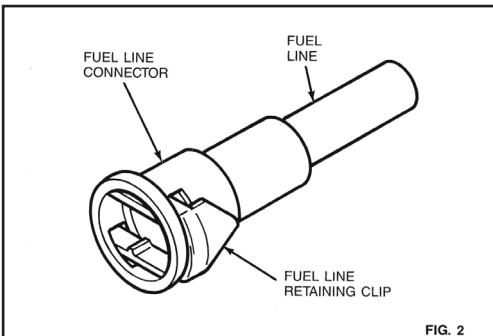

FIG. 2
- B) Referring to Fig. 2, install the new fuel line retaining clips, 5/16" (natural/clear) and 3/8" (black), into their respectively sized fuel line connector with the triangular end on the clip facing away from the fuel line connector opening.